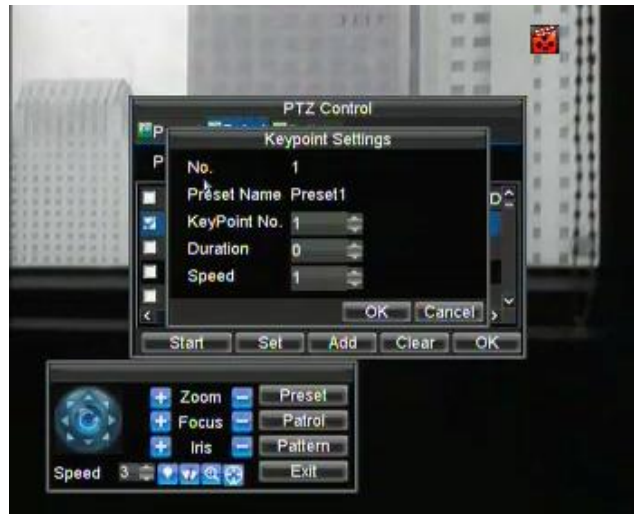

Figure 6. Patrol Configuration Menu
3. Set the **Key Point No.**, **Duration**, and **Speed** (Figure 6). The **Key Point No.** determines the order at which the PTZ will follow while cycling through the patrol. The **Duration** refers to the time span to stay at the corresponding key point. The **Speed** defines the rate at which the PTZ will move from one key point to the next.